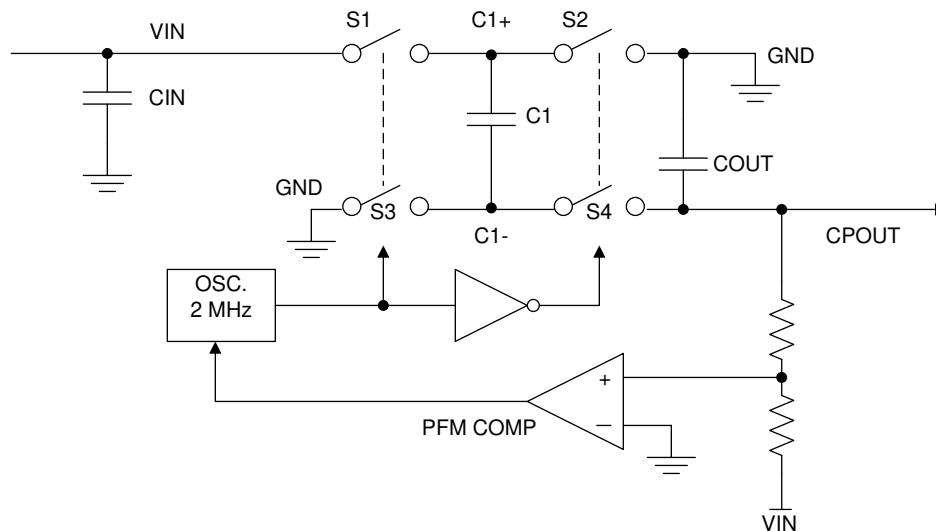

Figure 7-2. Voltage Inverting Principle
The voltage inverter portion of the LM27761 contains four large CMOS switches which are switched in sequence to invert the input supply voltage. Energy transfer and storage are provided by external capacitors. Figure 7-2 shows the voltage switches S2 and S4 are open. In the second time interval, S1 and S3 are open; at the same time, S2 and S4 are closed, and C1 is charging C3. After a number of cycles, the voltage across C3 is pumped into V_{IN} . Because the anode of C3 is connected to ground, the output at the cathode of C3 equals $-(V_{IN})$ when there is no load current. When a load is added the output voltage drop is determined by the parasitic resistance ($R_{DS(ON)}$ of the MOSFET switches and the equivalent series resistance (ESR) of the capacitors) and the charge transfer loss between the capacitors.
- R_{SW} is the sum of the ON resistance of the internal MOSFET switches shown in Figure 7-2.